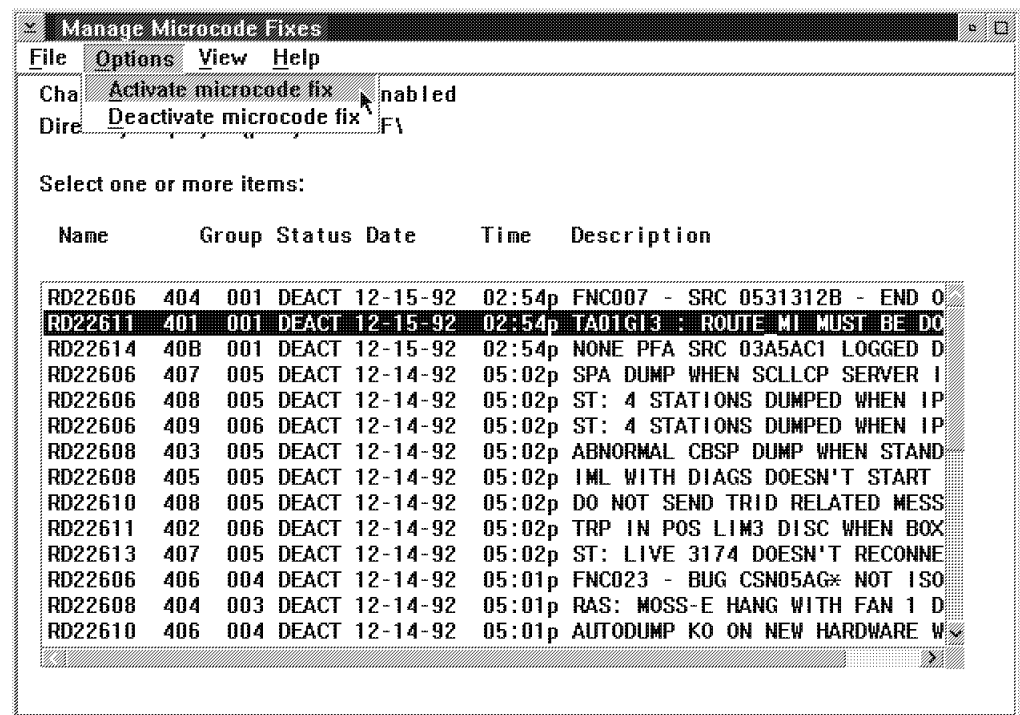

Figure 2-8. Manage Microcode Fixes
13. \_\_\_\_ Click on the lines of the MCFs to be applied (see example in the Figure 2-8)
7. \_\_\_\_ Click on the lines of the MCFs to be removed (see Figure 2-8 on page 2-7)